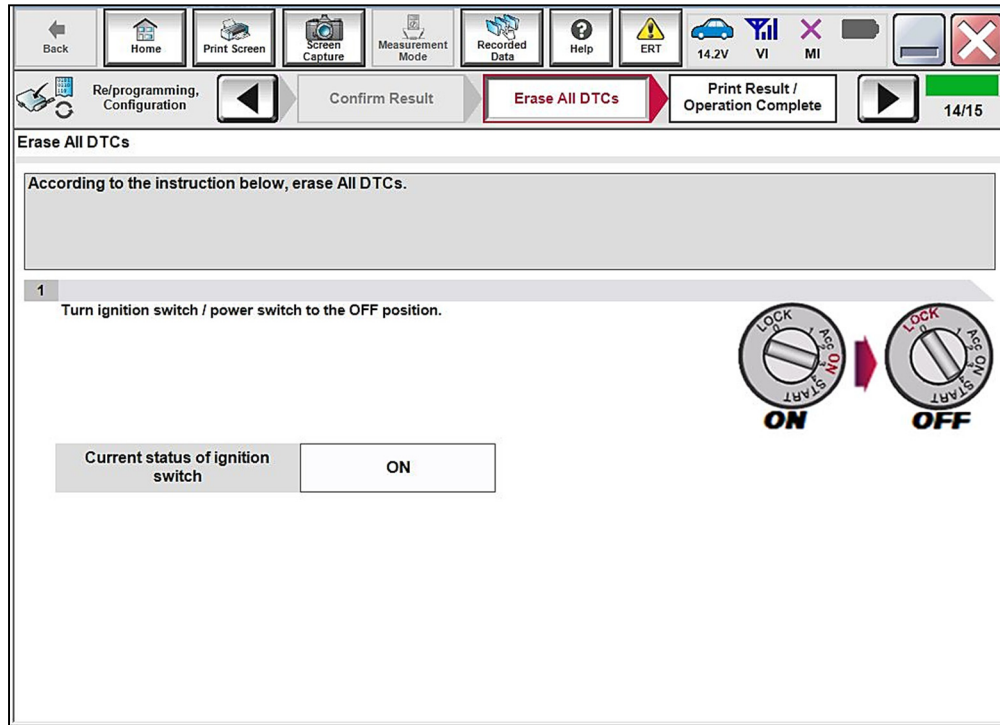
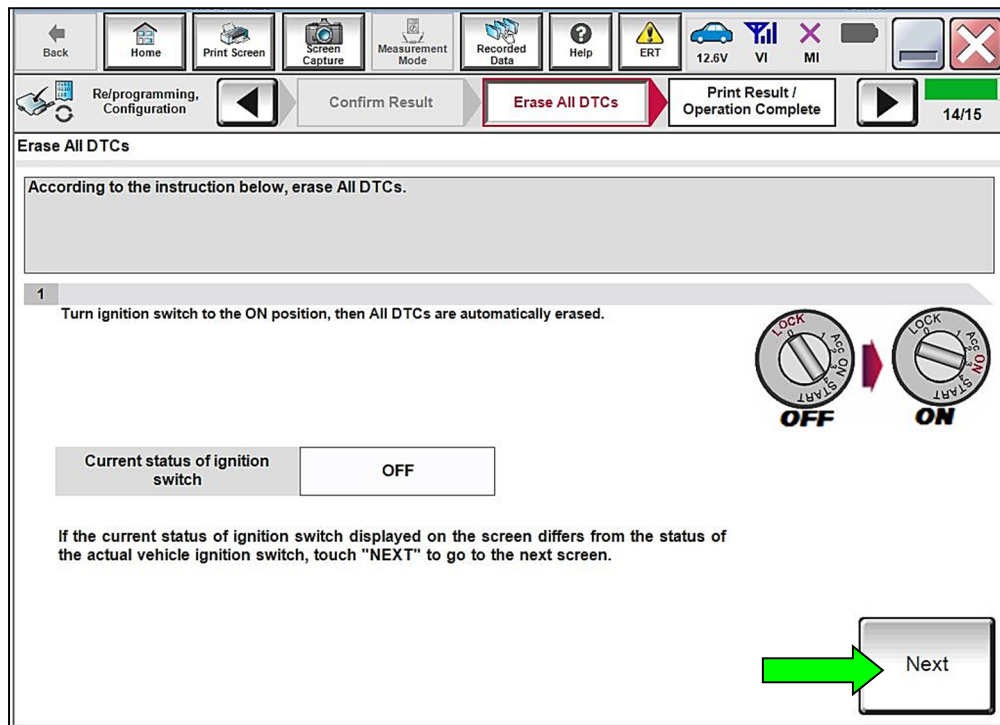

Figure 18
Figure 19
- a. Follow the on-screen instructions as shown in Figure 18 and Figure 19.